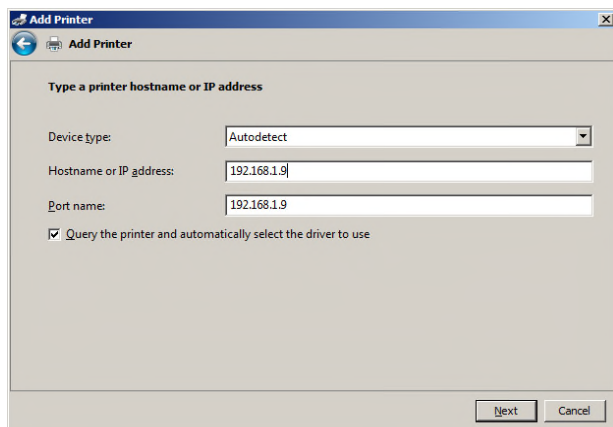

Figure 10.34 – Driver selection
- 16) If Windows was able to automatically configure the printer you will see a screen similar to Figure 10.34 below and you can click Next.